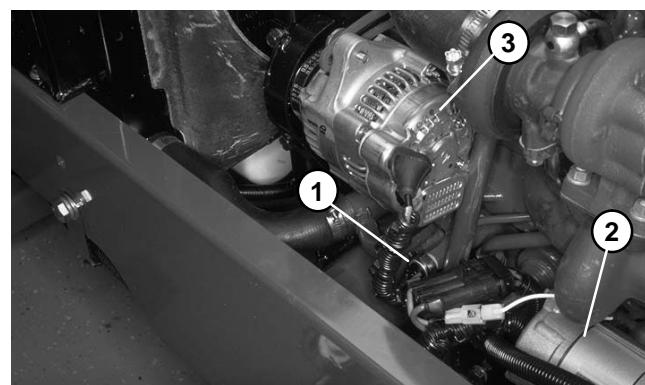
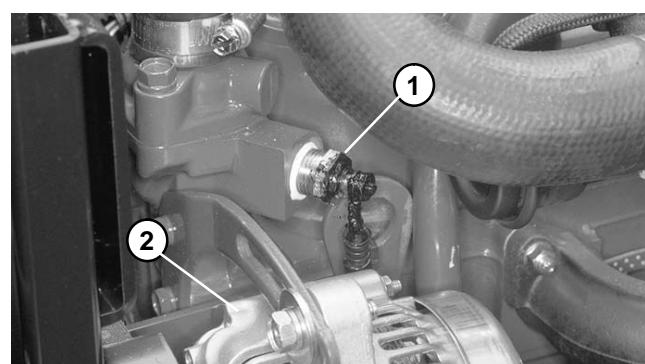

Figure 27
Figure 28
- A. The oil low pressure switch, starter, and alternator (Fig 27). The temperature sender (Fig. 28).
C. The temperature sender (Fig. 28). The oil low pressure switch, starter, and alternator (Fig 27).